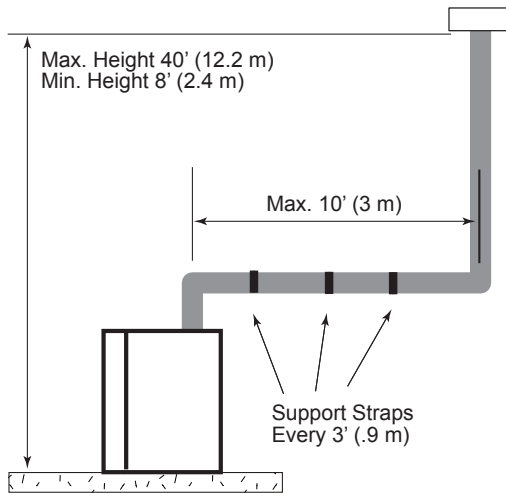

**Figure 16 -
- Vertical installations up to 40' (12 m) in height. Up to a 10' (3 m) horizontal vent run can be installed within the vent system using a maximum of two 90° elbows. *Figure 16*
- Two sets of 45° elbow offsets may be used within the vertical sections. From 0 to a maximum of 8' (2.5 m) of vent pipe can be used between elbows. *Figure 16*